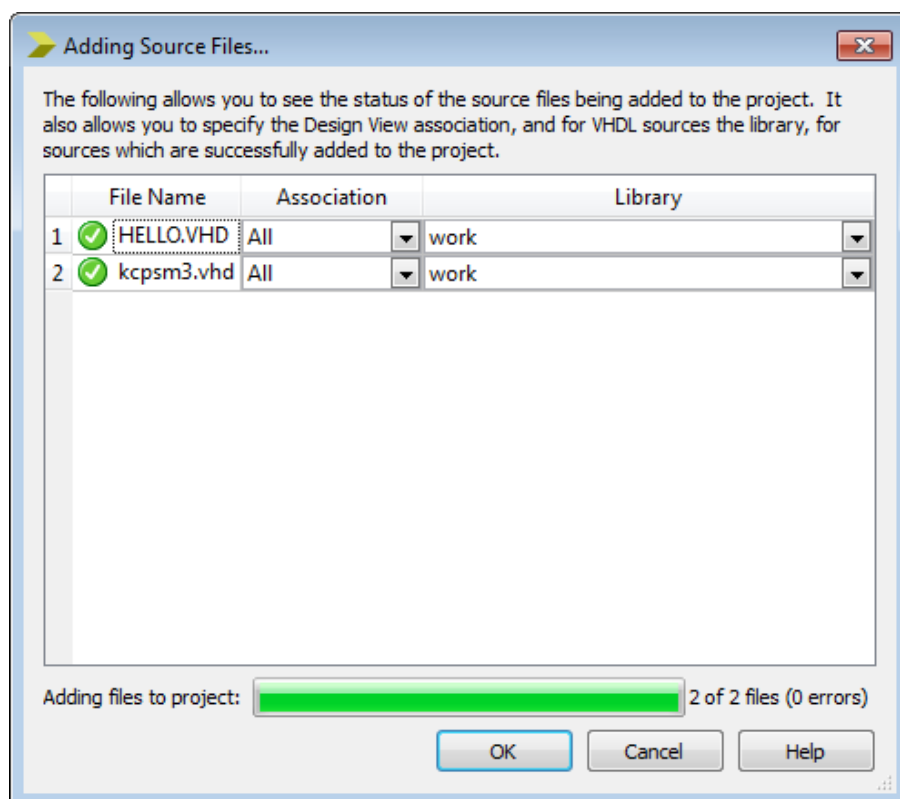

Figure 6.17: Adding Source Files window.
3. The **Adding Source Files** window will now appear as shown in Figure 6.17, showing the two files selected to be added to the project. Click OK.